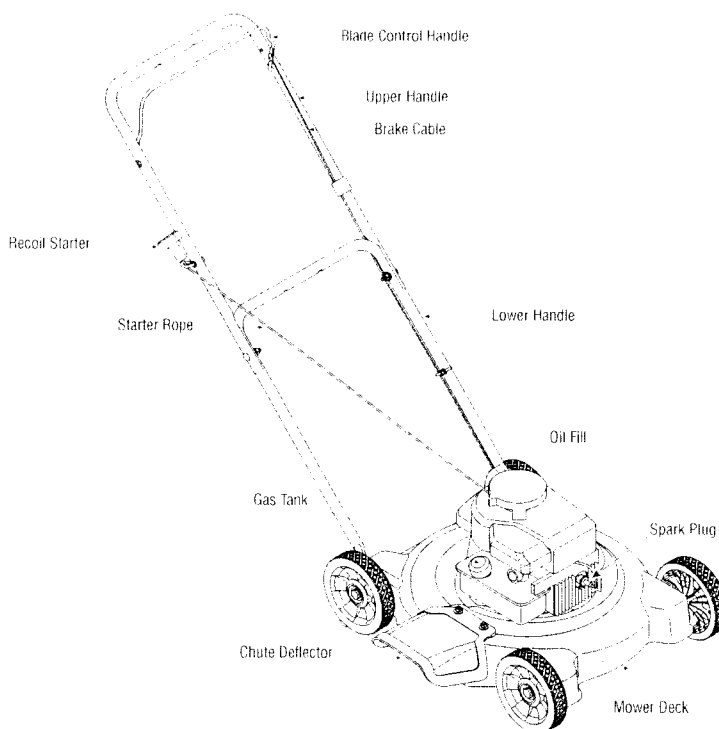

Figure 12: Parts of the mower.
Now that you have set up your lawn mower for operation, get acquainted with its controls and features, described below and illustrated in Figure 12. This knowledge will allow you to use your new equipment to its fullest potential.
- Check oil level and add oil if necessary. Follow engine manual for this. See Figure 12 for location of oil fill.
- Service the engine with gasoline as instructed in the engine manual. See Figure 12 for location of gas tank.